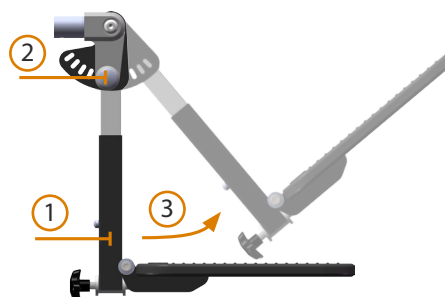

Figure 25. Angle adjustment
- Grip the footrest tubes near the bottom (1 in Figure 25).
- Pull the knob (2) on the right hand side and move the leg rest to the desired position (3).